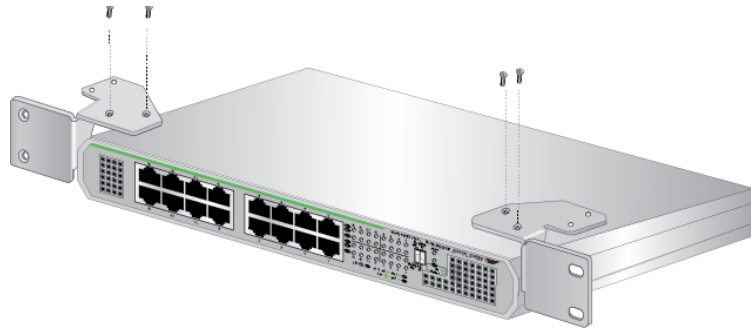

Figure 20. Attaching the Brackets to the AT-GS910/16 Switch
3. Orient the brackets against the sides of the switch and secure them to the switch with the four screws as shown in Figure 20 on page 38.